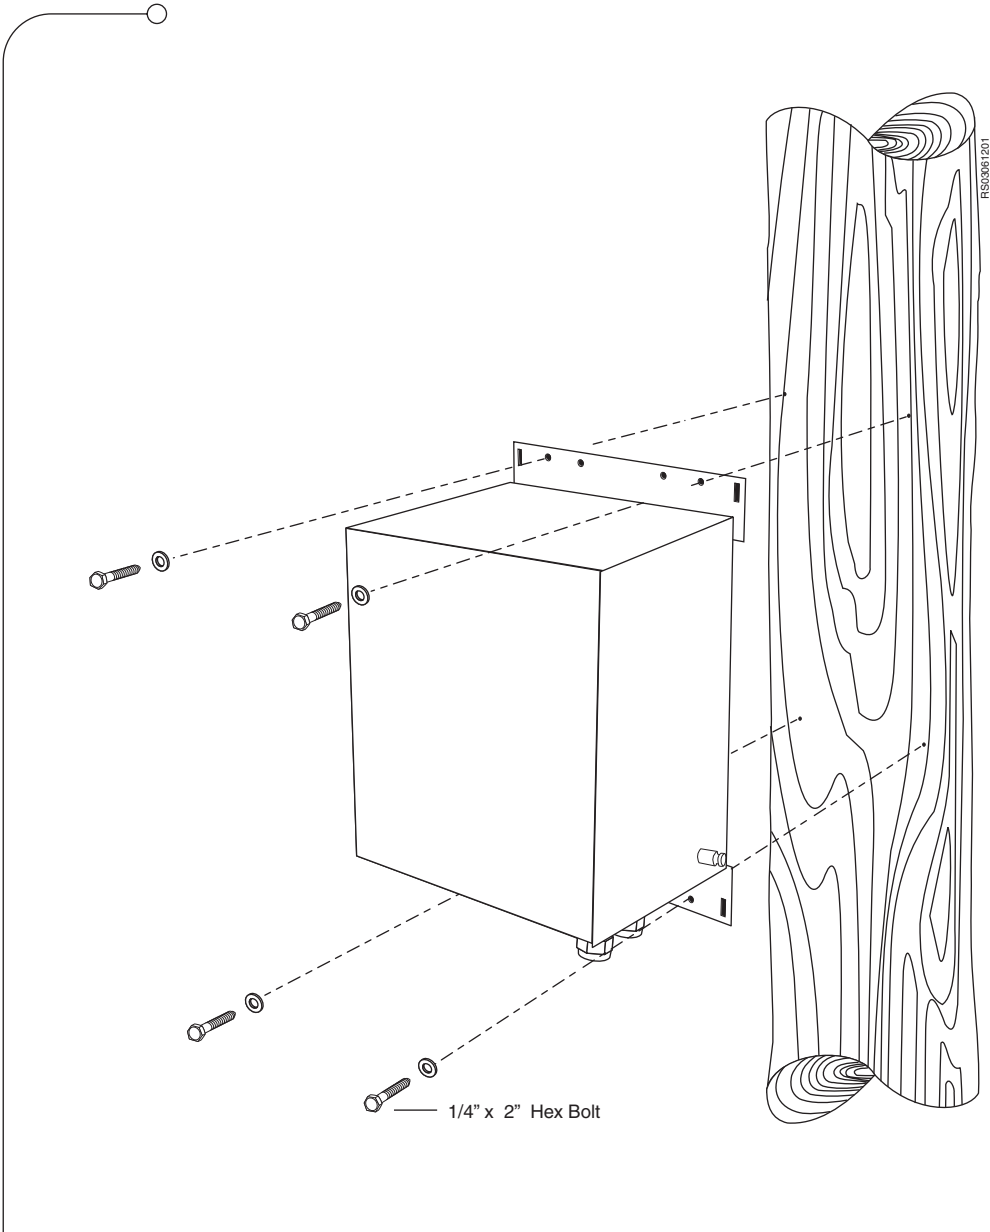

Figure 3.14 Mounting the STS Power Pack on a Wooden Pole (or Wall)
3. Install the STS Power Pack on the pole or wall and secure it in place using the four lag screws, as shown in Figure 3.14 on page 53.